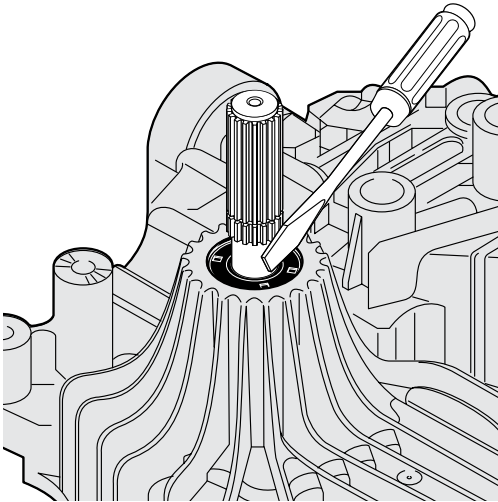

Fig. 42, Pump Shaft Seal Removal
1. Remove the Seal and discard. Replace with new a Seal during reassembly. (Fig. 42)